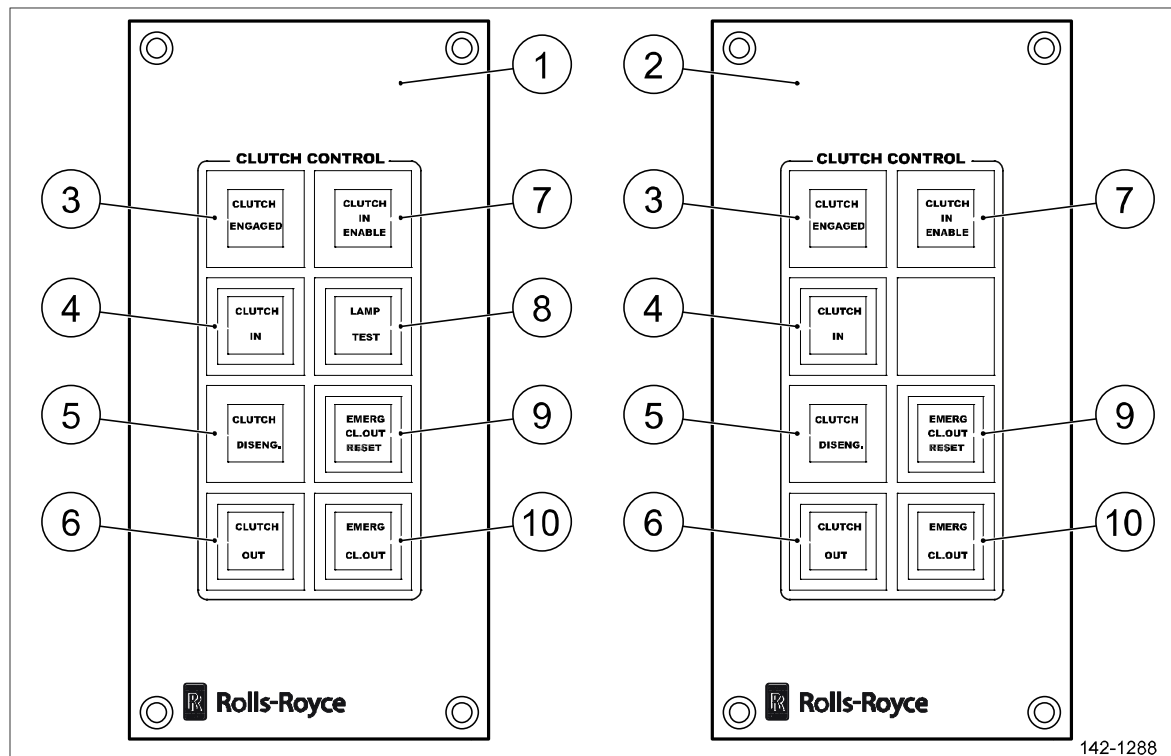
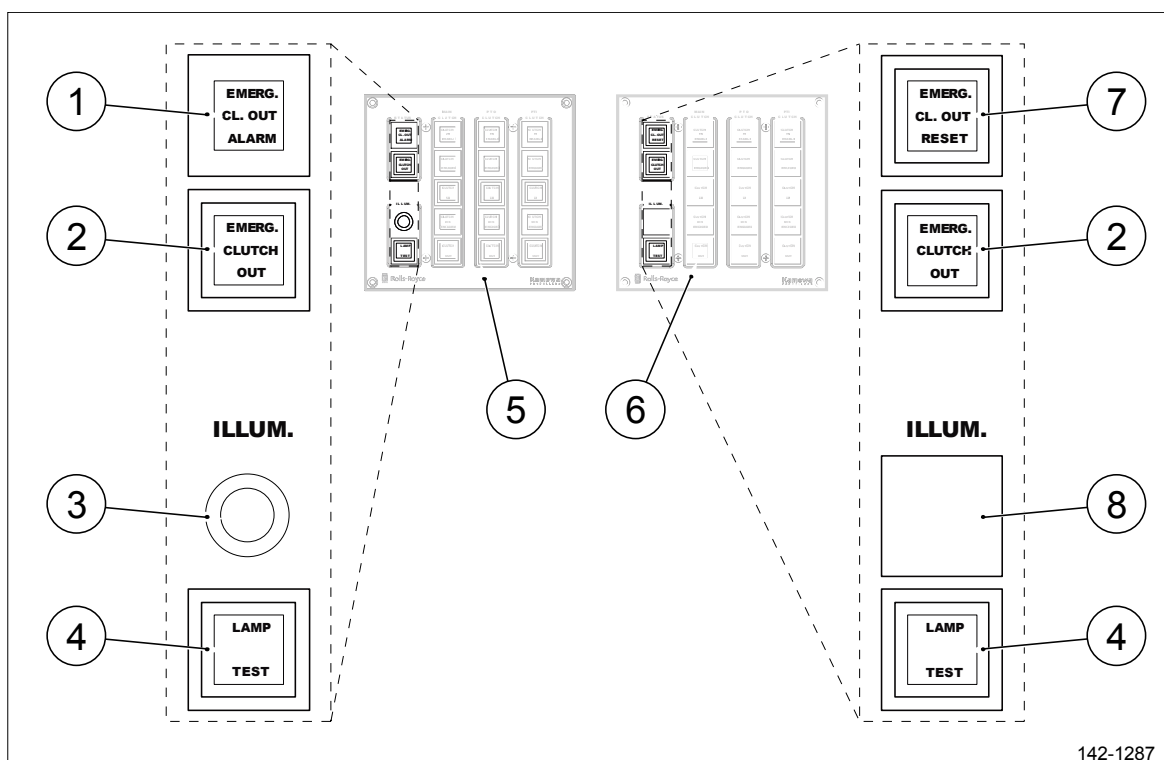

Figure 32 Clutch control panels on vessel with one clutch, bridge stations and engine control room.
Figure 33 Clutch control panels on vessel with two or three clutches, bridge stations and engine control room.
In case of an emergency situation where an immediate stop of the main propellers is needed the emergency clutch out button is used (see pos 1, Figure 30, pos 10, Figure 32 and pos 2, Figure 33).